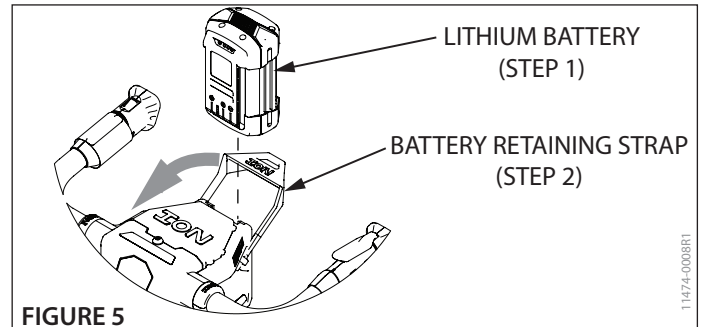

FIGURE 5
1. Remove the battery retaining strap by pulling it towards the motor. **SEE FIGURE 5**